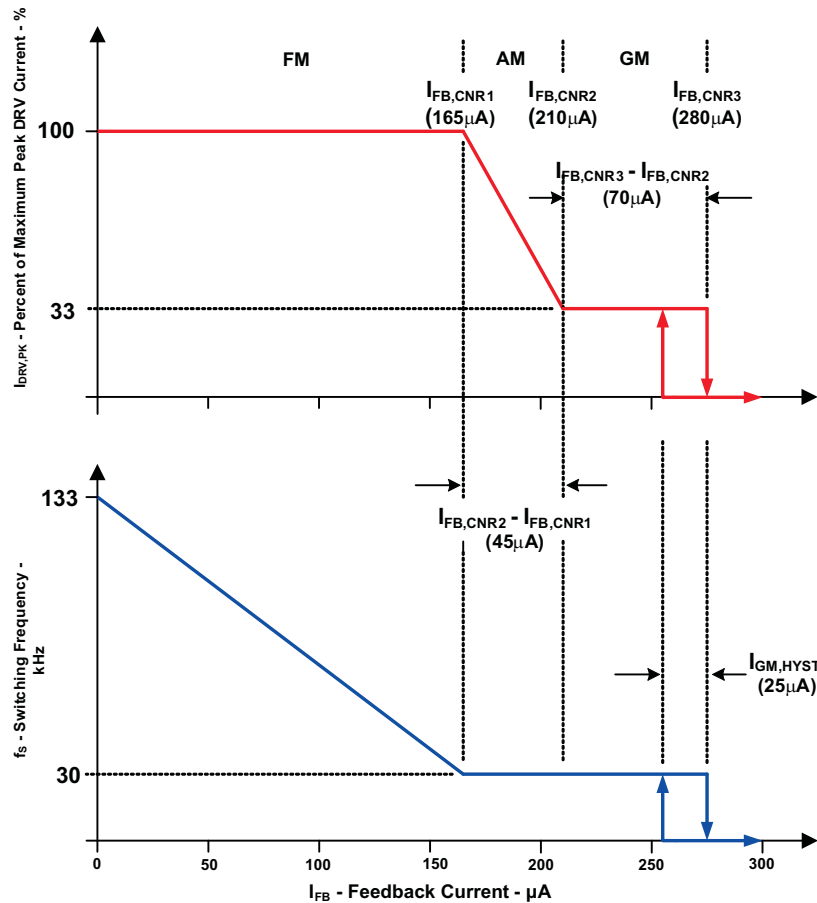

Figure 1. FB Electrical Condition Detail
(2) Refer to Figure 1.
(3) A latch-off or a shutdown and retry fault response to a sustained overload is selected by the range of RMOT. To select the latch-off mode, RMOT should be greater than 150 kΩ and tMOT is given by RMOT × (1.0 × 10-11). To select the shutdown-retry mode, RMOT should be less than 100 kΩ and tMOT is given by RMOT × (5.0 × 10-11).